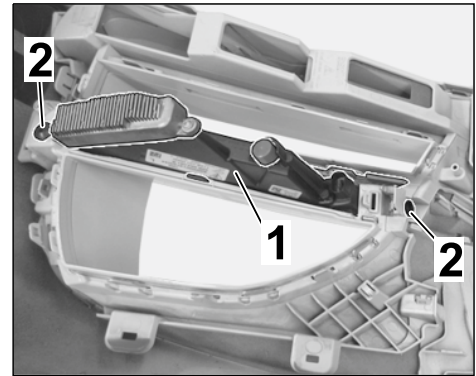

Figure 12
2.7.3 Convert direction indicator light/auxiliary headlights (left/right) (⇒ *Figure 12*; ⇒ *Workshop Manual '947119 Removing and installing auxiliary headlights*).